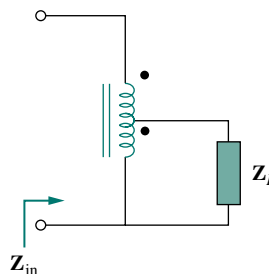

Figure 13.118 For Prob. 13.52.
- 13.52** In the autotransformer circuit in Fig. 13.118, show that